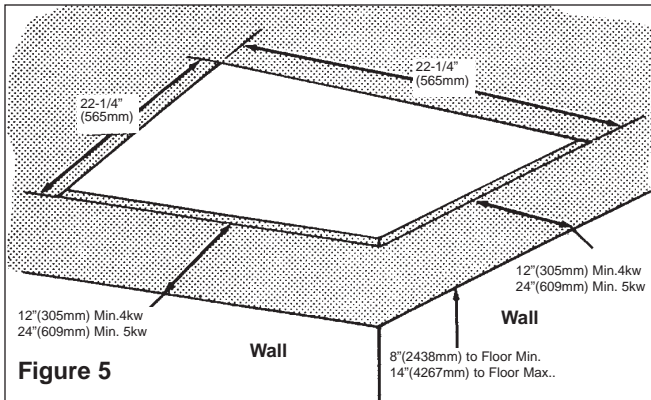

**Figure 4**
15. Position the heater in the T-bar grid (Figure 4) and secure as required. SEE WARNING NO. 9.